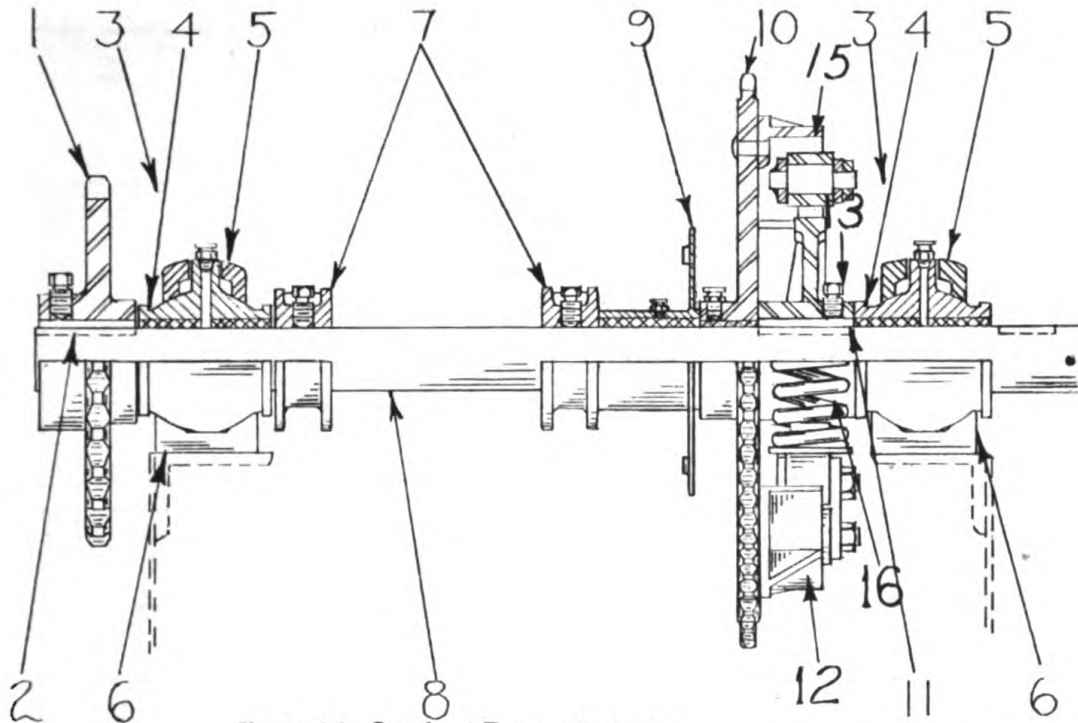

Figure 26. Overload Release Sprocket.
(37) Spiral Drive
The spiral drive transmits power to the spiral countershaft (8) figure 26. The conveyor drive chain idler sprocket (5) figure 29 on the pivot shaft has a second sprocket welded to the hub. The drive chain runs from this sprocket which is driven by conveyor drive chain, to the spring release sprocket (10) figure 26 on the spiral drive countershaft. This chain is provided with a spring take up sprocket mounted in the chain guard for keeping the chain properly adjusted.
(38) Spiral Drive Countershaft
The spiral drive countershaft (8) figure 26 transmits power through the final spiral drive chain to the spiral. Upon this shaft is assembled the spring release sprocket (10).
The release sprocket assembly consists of two main parts i.e., the driving sprocket and the hub assembly. The hub assembly (13) figure 26 is keyed to the spiral drive countershaft. The driving sprocket (10) is free to rotate on the shaft. Power is transmitted from the sprocket to the hub through rollers (15) attached to the hub which engage cams (12) on the sprocket.